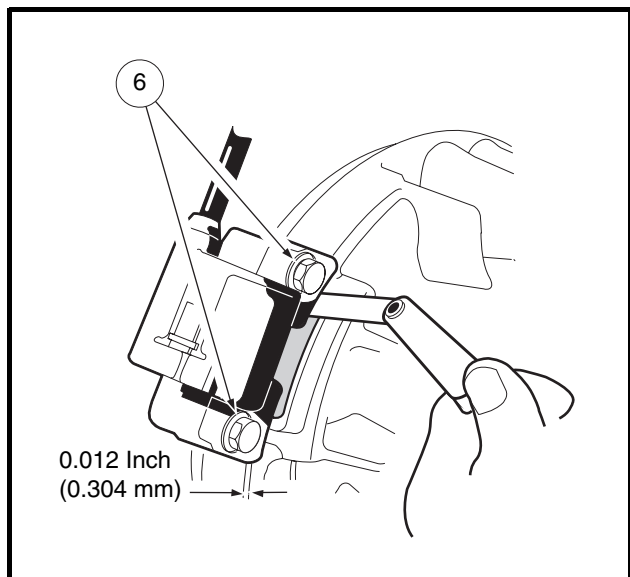

Figure 12-29 Set Air Gap
4. Remove the grommet (4) from the old spark plug wire. Clean the grommet and place it on the new spark plug wire (5).
8. Install the gasket (1) on the cap (2).
9. Position the ignition coil (7) onto the cast mounting bosses on the engine crankcase and tighten the two mounting bolts (6) to finger tight at this time.
10. Rotate the flywheel (8) until the magnet is positioned directly under the ignition coil. Use a 0.012-inch (0.304 mm) bronze feeler gauge to set the air gap between the ignition coil and the flywheel magnet. Tighten the two mounting bolts (6) to 30 in-lb (3.4 N·m) (Figure 12-29, Page 12-26).